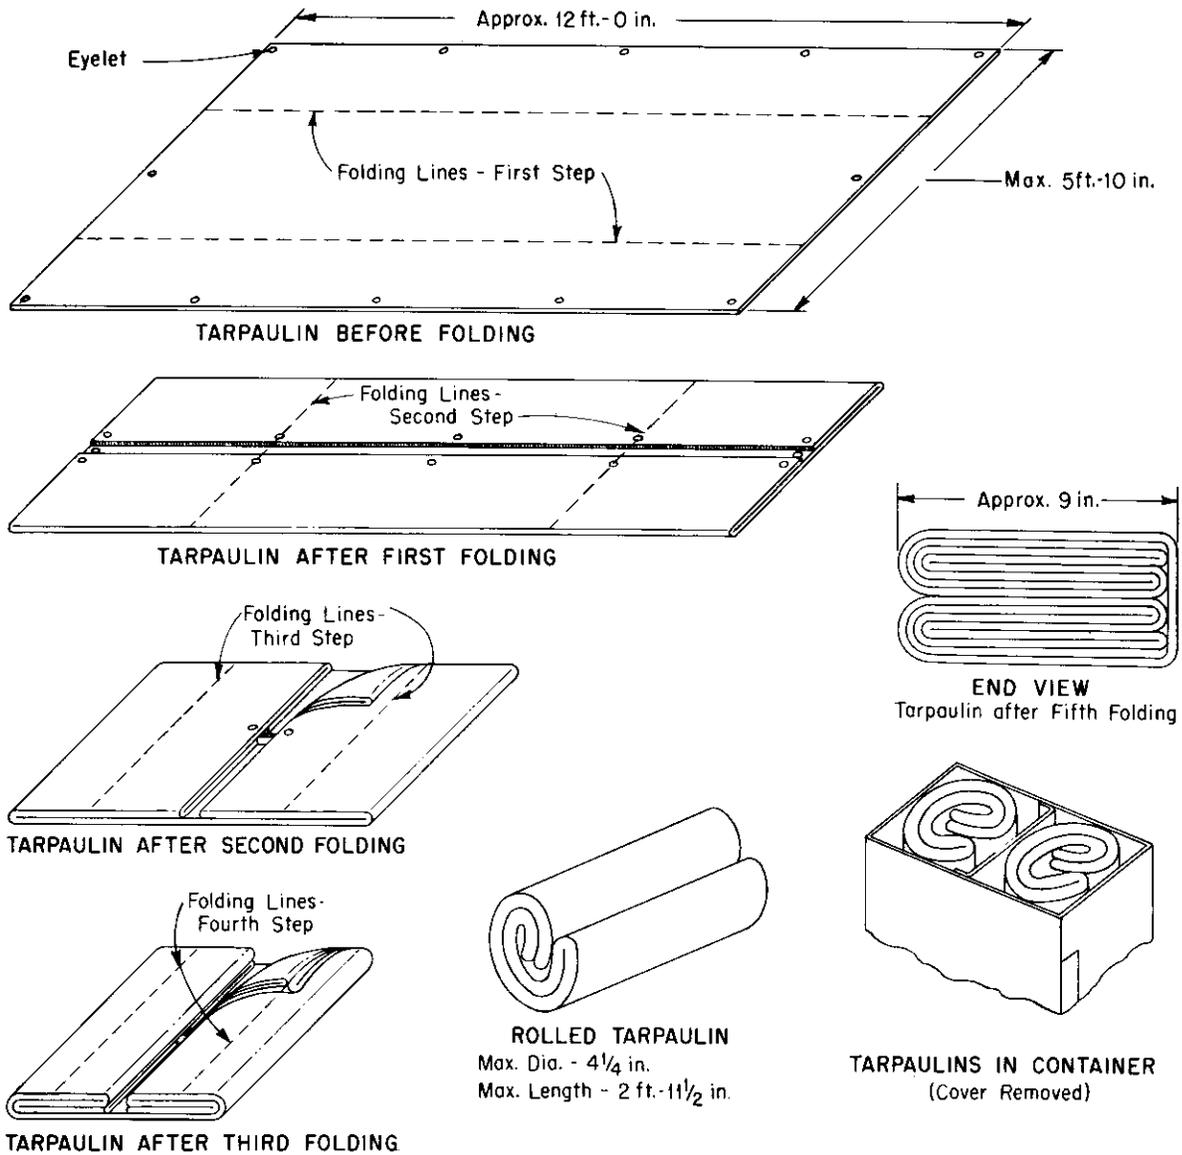

Fig. 2
8.02 When tarpaulins are placed in the storage container, they must be folded and rolled in the proper manner to permit them to be placed and removed easily. The proper method for folding and rolling is shown in Fig. 2.